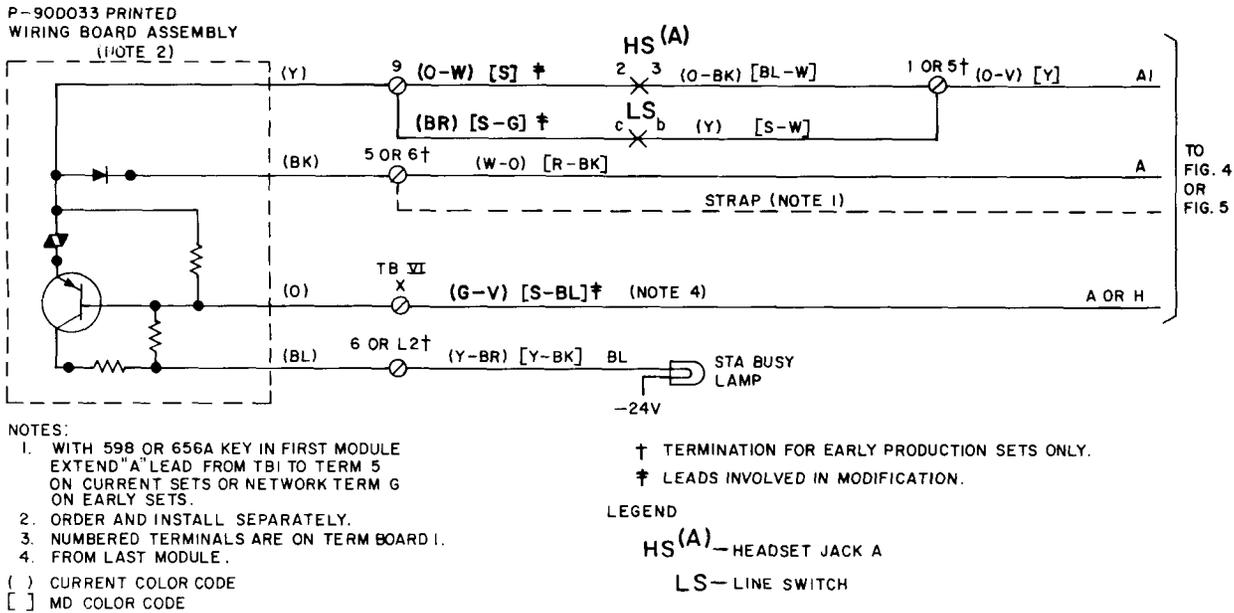

Fig. 6—Station Busy Lamp Circuit Using Printed Wiring Board Assembly
5. WHEN INSTALLING P-90D033 PRINTED WIRING BOARD ASSEMBLY TO PROVIDE STATION BUSY LAMP FEATURE IN 1A1 OR 1A2 KTS CONNECT A OR H LEAD [S-BL] FROM LAST KEY MODULE TO TERMINAL X OF TBVI. SEE FIG. 6.